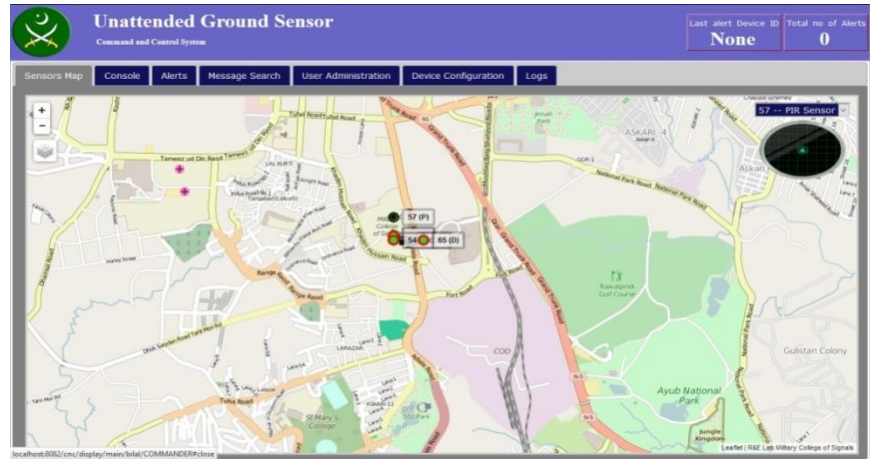
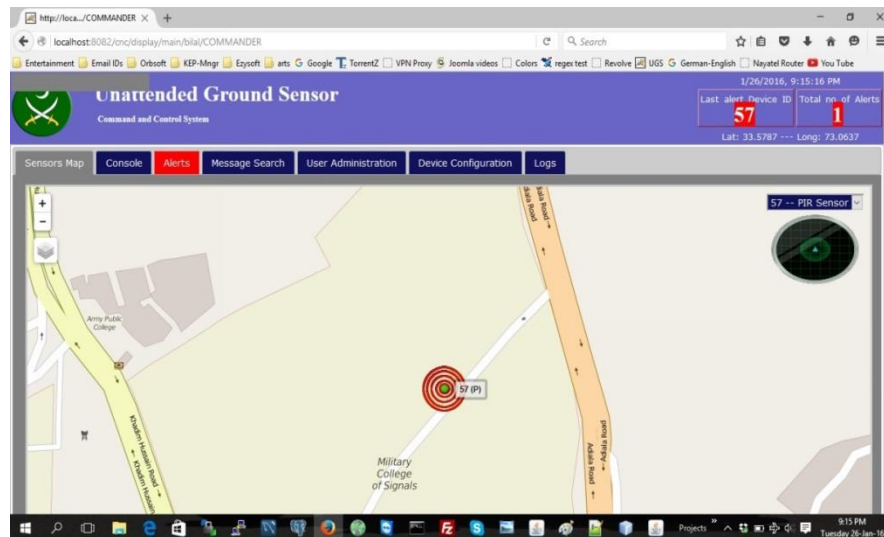

Fig.6 Map of sensor nodes on C2I display, active sensor node is shown as green disc with red circular bdy, while black disc indicates sensor dead/off.
Fig.7 Alert msg of sensor node on C2I display shown as red circles animation and audible sound/alarm generated for 30 secs
- c. **C2I**. C2I sta has a graphical user interface to view sensor node op in real time. It performs geo tagging of sensor nodes on satellite imagery/maps. The C2I (software appl) is based on a Client-Server architecture which enables multiple users to have a real time view of sensor nodes network as shown in Fig.6 (screenshot view). C2I app displays sensor node id, geo loc (lat/lon) and alert msg (motion/intrusion detection msg). Fig.7 shows an alert msg from Sensor node id 57. The alert msg is depicted by red circles animation and audible alarm generated for 30 secs.